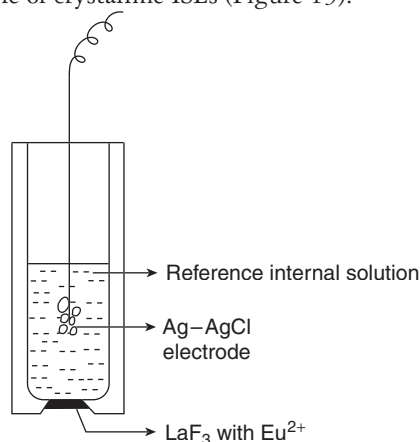

Figure 13 Fluoride ISE.
- **Crystalline ISEs:** A thin crystalline membrane is used in these ISEs. Fluoride ion-selective electrode is the best example of crystalline ISEs (Figure 13).